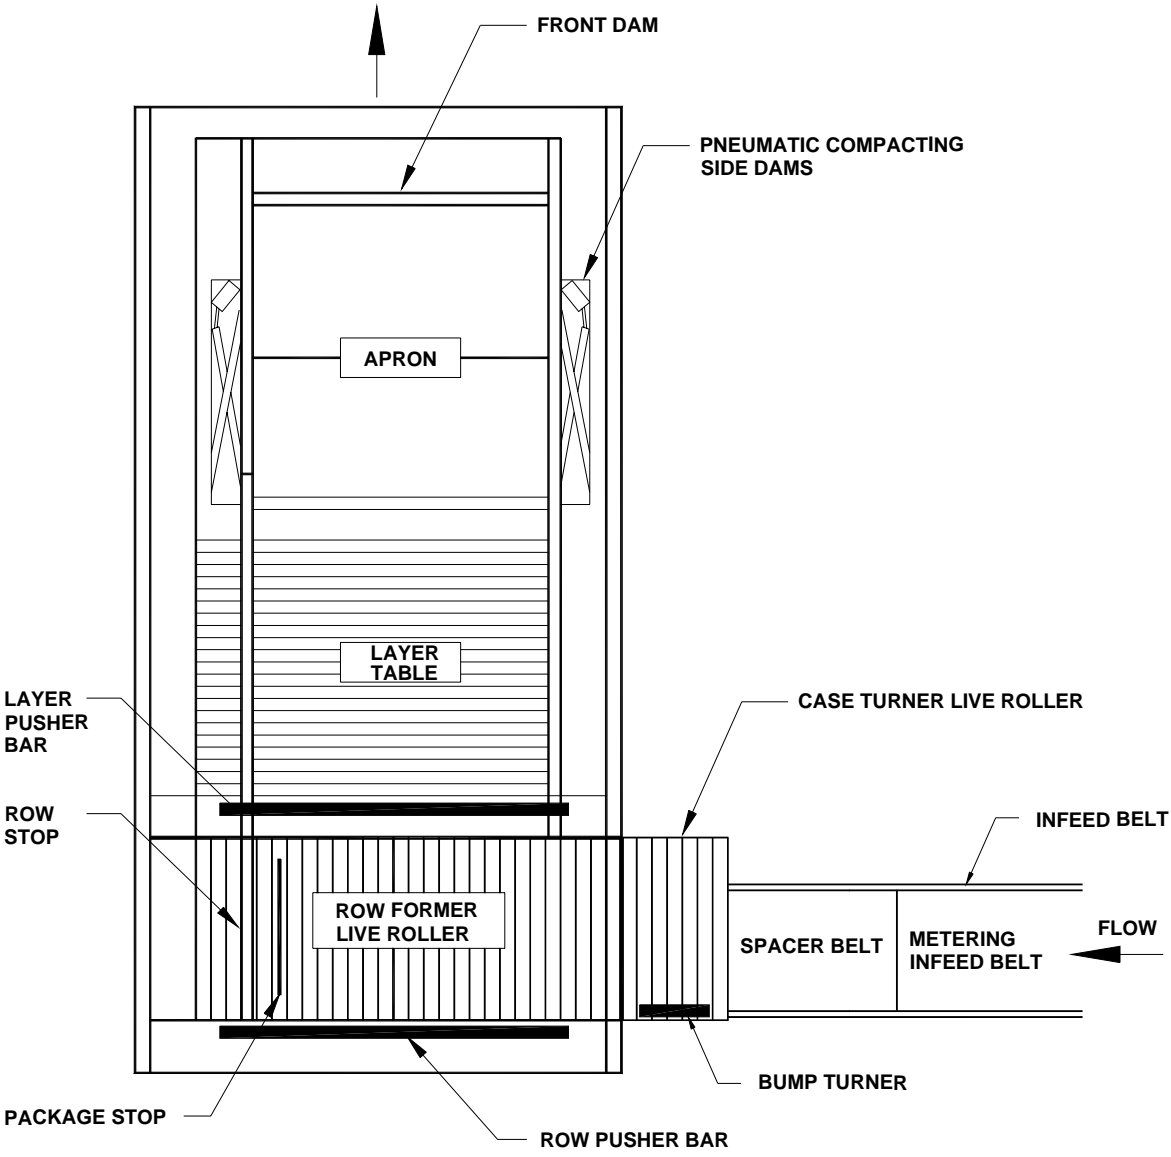

Figure 2-1: Plan View of Case Handling Area
1. Cases of product are delivered from the infeed conveyor onto the infeed belt that spaces and feeds cases into the unitizer. (See Figure 2-1)